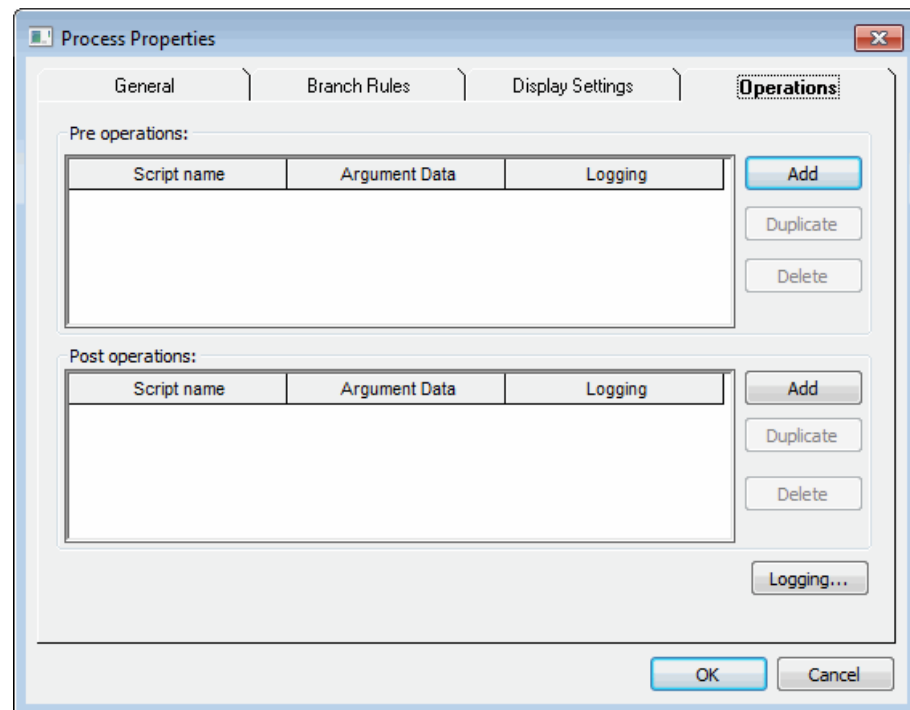

Figure 2-25: Process Properties, Operations tab
4. Select the **Operations** tab as shown in Figure 2-25.